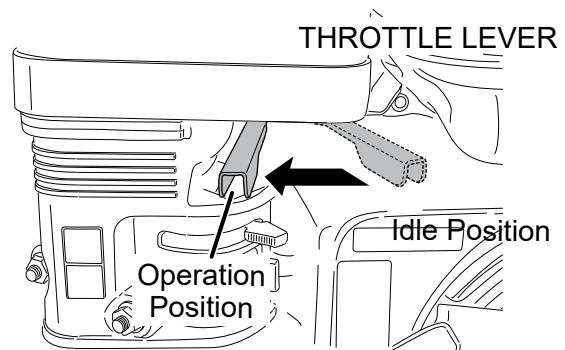

Figure 22. Throttle Lever (Operation)
1. After the engine has been started, move the throttle lever quickly to the operation position. The machine starts vibrating (Figure 22).